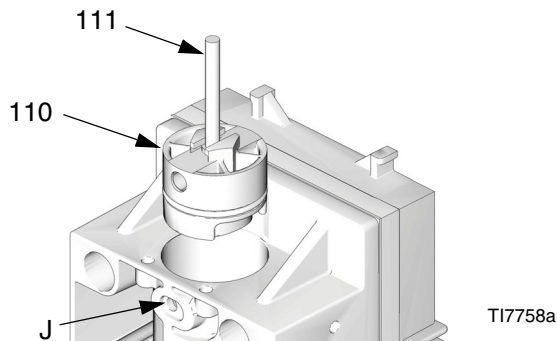

FIG. 10. Remove Piston Stops
3. See FIG. 10. Remove the retainer pins (111) from their holes (J). Invert the pins and slide the heads into the slots on the piston stops (110). Use the pins to pull the piston stops out.